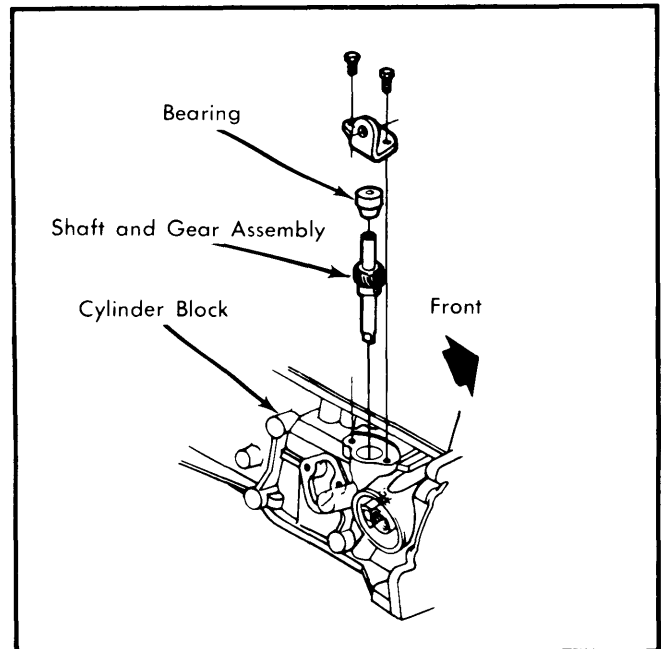

Fig. 7 Removing Oil Pump Drive Shaft
2) Remove rocker arm cover, loosen rocker arms and pivot to one side. Remove push rods. Remove push rod cover and remove valve lifters. Remove distributor, fuel pump and oil pump drive shaft. See Fig. 7. Remove front pulley and timing gear cover.